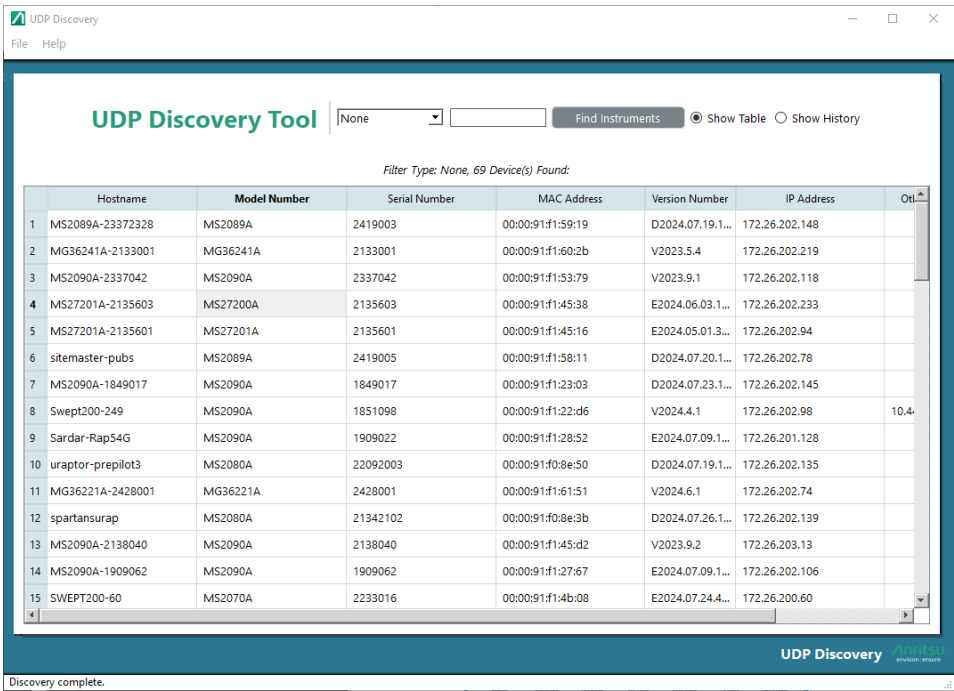

Figure 2-10. Displayed Instrument Inventory
- IP Address: Internet Protocol (IP) address
3. Click None to display an alphabetical listing of the inventoried instruments available to connect as shown in Figure 2-10.
In this example, refer to the listing in Figure 2-10.